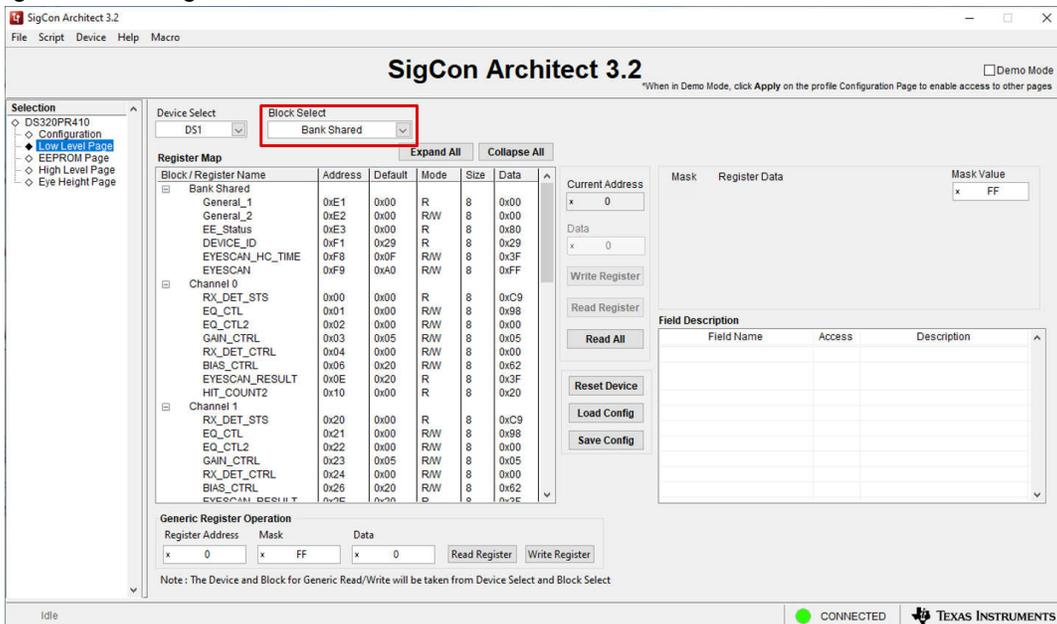

Figure 3-2. Low Level Page: Block Select Drop-Down Menu
2. Once the desired device is selected using the *Device Select* drop-down, the complete register map appears in the GUI *Register Map* table. Use the *Block Select* drop-down menu shown in Figure 3-2 to jump to the desired section of the table to view device *Bank Shared* registers, device *Channel* registers, and device *Bank* registers. The register *Bank* includes all device channels 0-3.